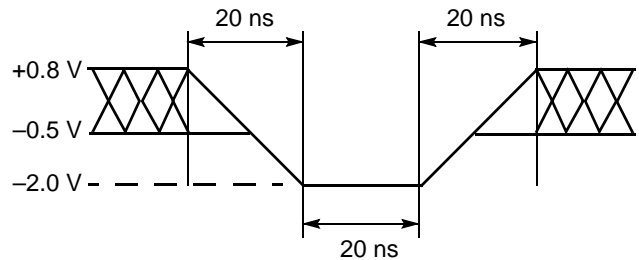
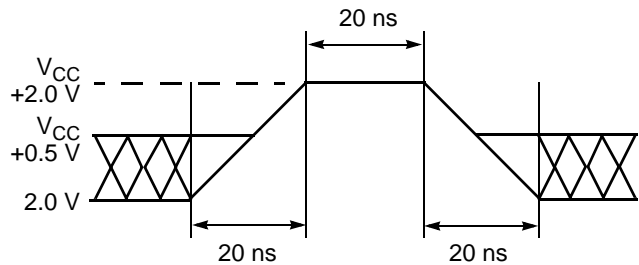

Figure 9. Maximum Negative Overshoot Waveform
Figure 10. Maximum Positive Overshoot Waveform
1. Minimum DC voltage on input and I/O pins is -0.5 V . During voltage transitions, input and I/O pins may overshoot V_{SS} to -2.0 V for periods of up to 20 ns. See Figure 9. Maximum DC voltage on input and I/O pins is $V_{CC} + 0.5\text{ V}$. During voltage transitions input or I/O pins may overshoot to $V_{CC} + 2.0\text{ V}$ for periods up to 20 ns. See Figure 10.
2. Minimum DC input voltage on pins A9, OE#, and RESET# is -0.5 V . During voltage transitions, A9, OE#, and RESET# may overshoot V_{SS} to -2.0 V for periods of up to 20 ns. See Figure 9. Maximum DC input voltage on pin A9 and OE# is $+13.0\text{ V}$ which may overshoot to 14.0 V for periods up to 20 ns.